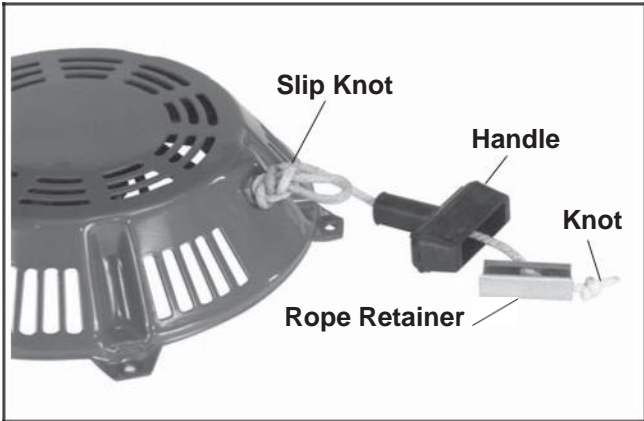

Figure 7-3. Removing Starter Handle.
- 2. Pull the rope out approximately 12" and tie a temporary (slip) knot in it to keep it from retracting into the starter. See Figure 7-3.